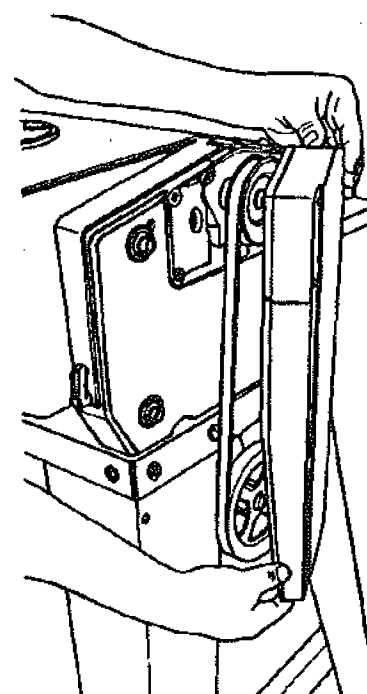

Fig. 39
48. Place the pulley guard (114) in position, cover both pulleys and V-belt, as shown in Fig. 39.